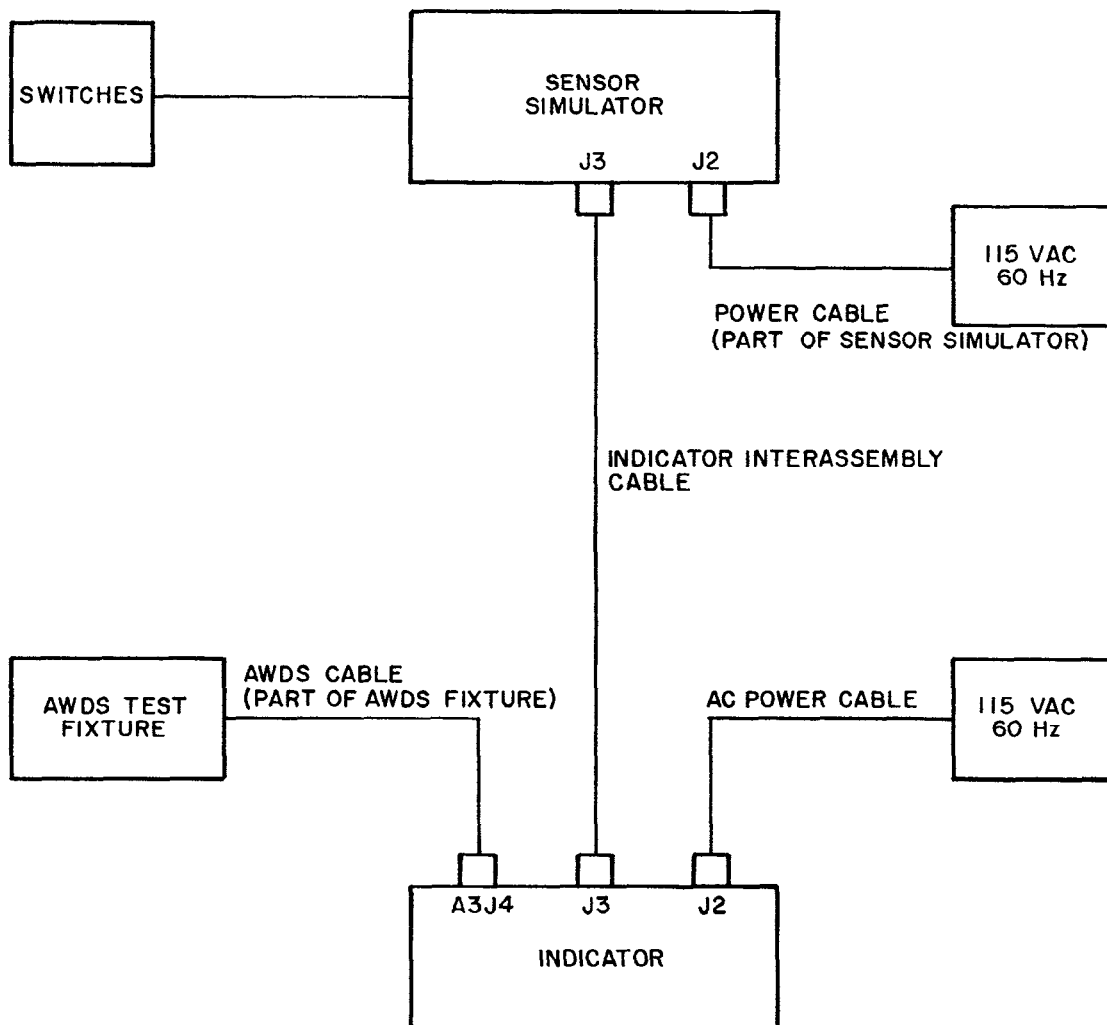

FIGURE 5-15. Test Setup for Indicator Test
- d. Configure the indicator to the test setup as shown in FIGURE 5-15.